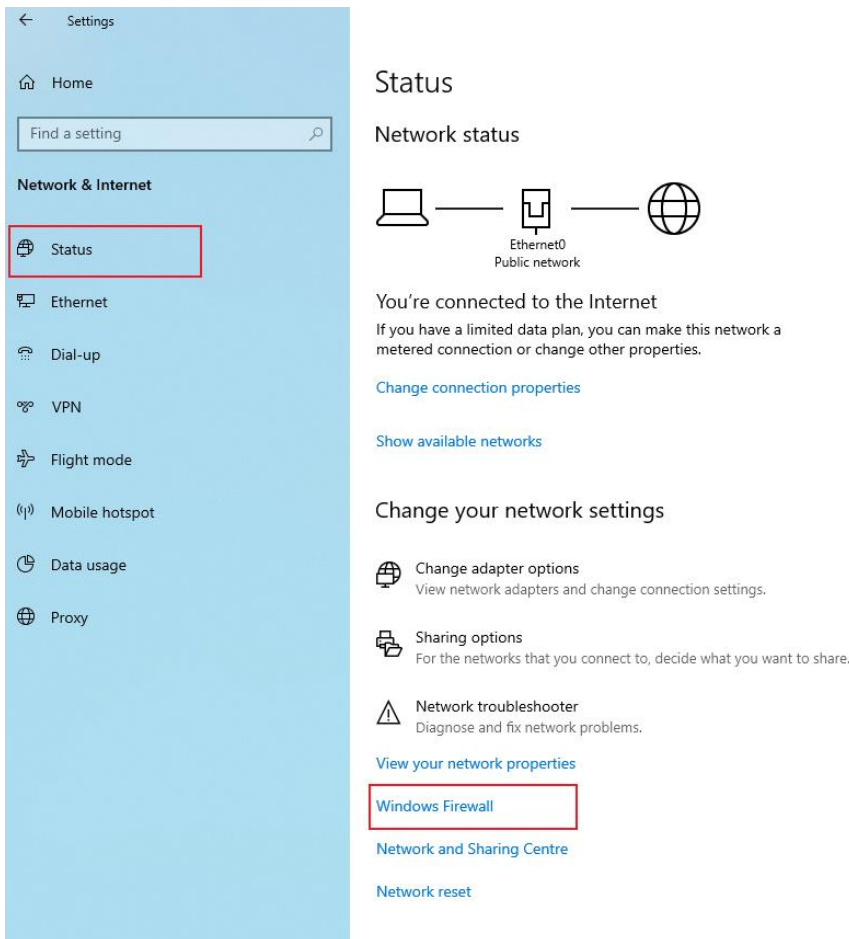

Fig. 7-14 Firewall Settings 1
1. Use a network cable to connect the external device to the industrial personal computer, or connect the external device to the industrial personal computer to the same Wi-Fi, so that the external device and the industrial personal computer are in the same local area network, and then after the external device enters the "Network and Internet", select "Ethernet" after selecting "Windows Firewall", select "Public Network", enter and turn off the firewall in the industrial personal computer. As shown in Figure 7-14~7-16.